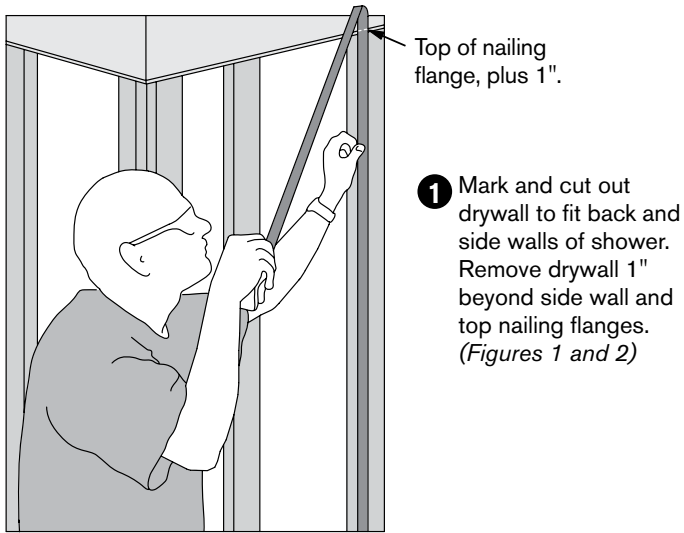

Figure 1
- 1 Mark and cut out drywall to fit back and side walls of shower. Remove drywall 1" beyond side wall and top nailing flanges. (Figures 1 and 2)